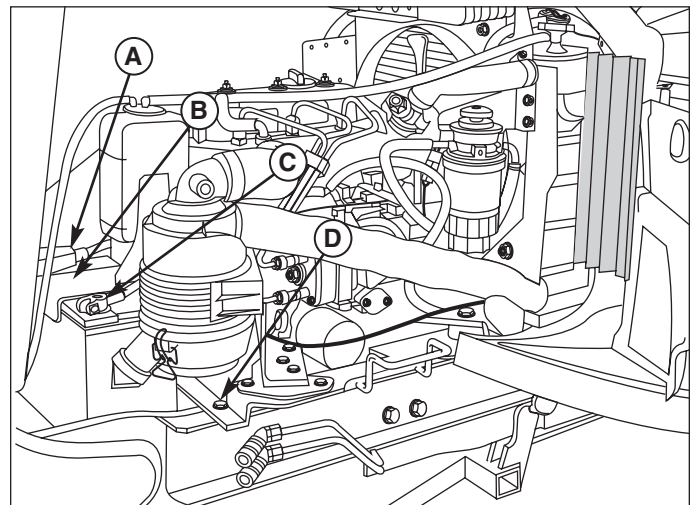

Figure 30. Battery - Diesel Models
1. Disconnect the cables from the battery, negative cable first (C, Figures 30).
2. Remove the battery clamp (B) and battery. On diesel models the battery clamp is secured with bolts to both frame rails (D, Figure 30).
5. Reinstall the battery in the battery compartment, and secure with the battery clamp (B).
6. Reattach the battery cables, positive cable first (A).